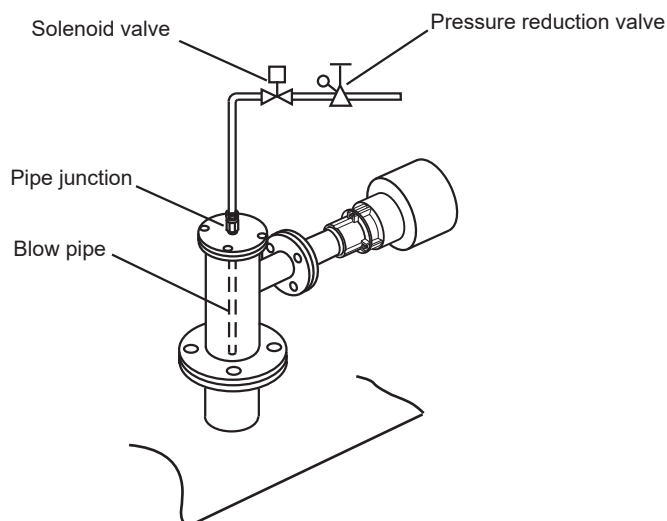

Figure 4.26 Blow back Piping
- Blow pipe (to be prepared as illustrated in Figure 4.26.)